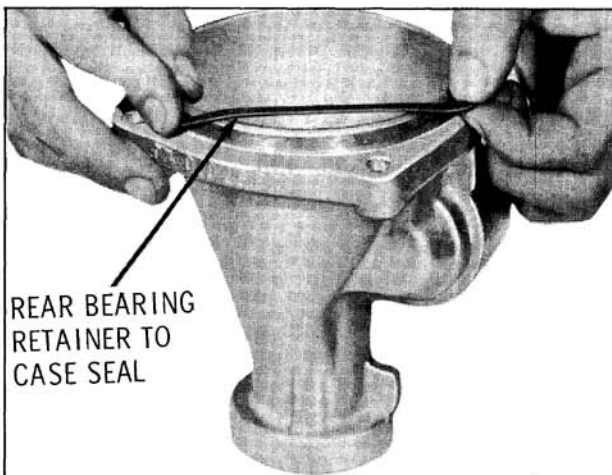

Fig. 6-368 Removing Rear Bearing Retainer to Case Seal
2. Remove rear bearing retainer to case seal. (Fig. 6-368)